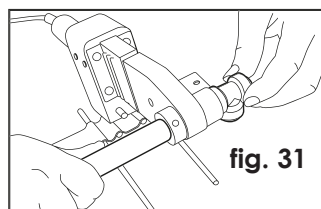

fig. 31
f) Insert the pipe into the plug and at the same the fitting onto the socket. Insert straight, don't turn or align (fig. 31)!